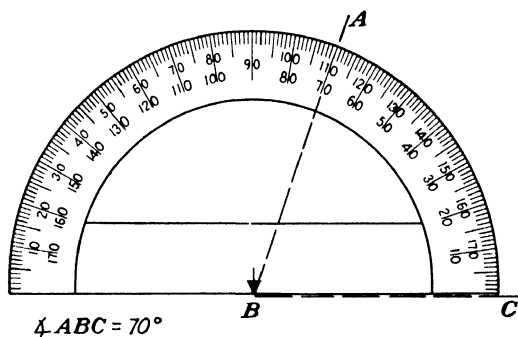

Fig. 101.
- a. Place the protractor so that the straight edge coincides with the line  $BC$  (see Fig. 101).